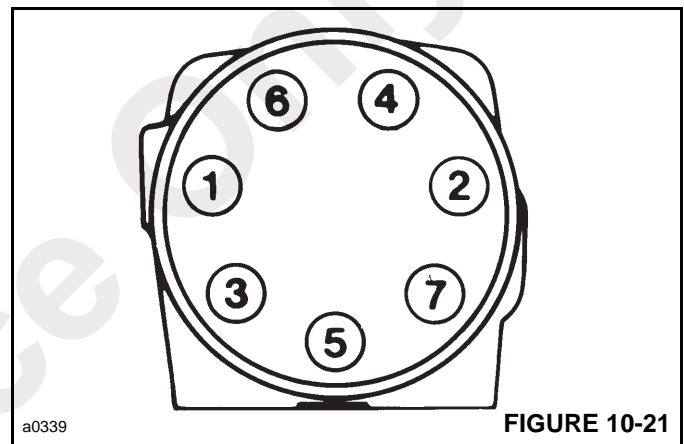

FIGURE 10-21
24. Install seal (13) into end cap (18). Install end cap (18) onto gerotor (16). Align the bolt holes.
25. Install the seven 6 pt. Torx Drive screws with new seal washers in the end cap. Tighten each screw to 150 lb-in, then tighten each screw in sequence shown in Figure 10-21 to a torque of 31 Nm (275 lb-in).